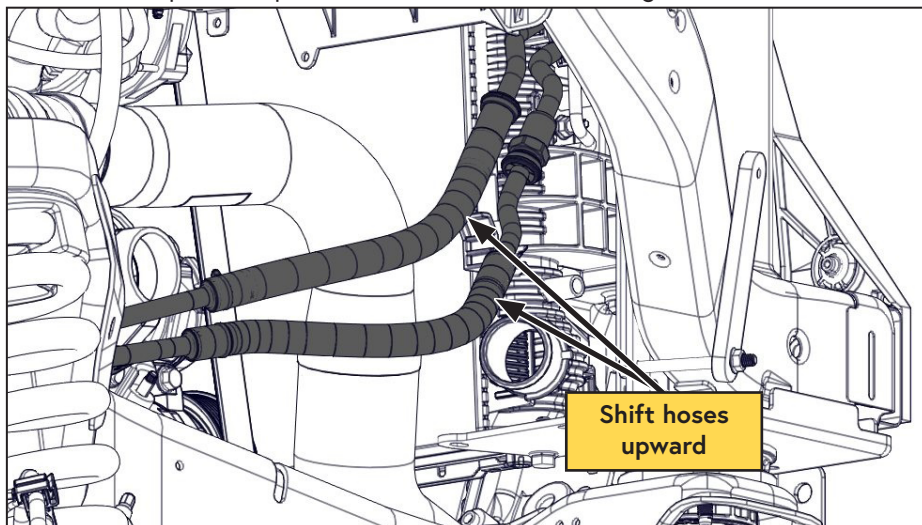

Figure 32 — Deflect hoses
- ☐ While stabilizing the transmission cooler hoses at the radiator, gently deflect the hoses upward to provide room for the oil cooler (Figure 32).